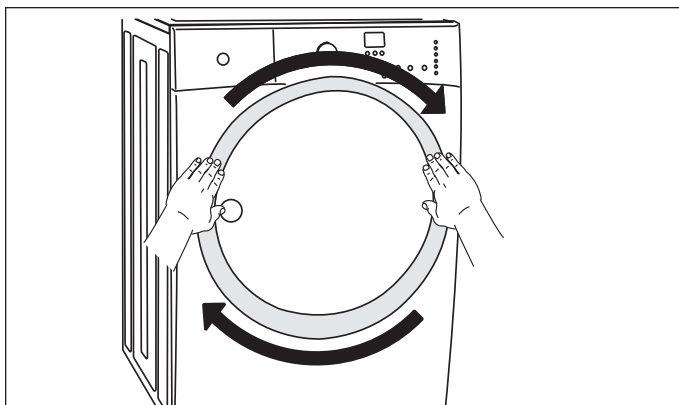

Figure 2-46.
3. Insert the trim ring in the slots and rotate it clockwise approximately $\frac{3}{4}$ ". (See Figure 2-46)